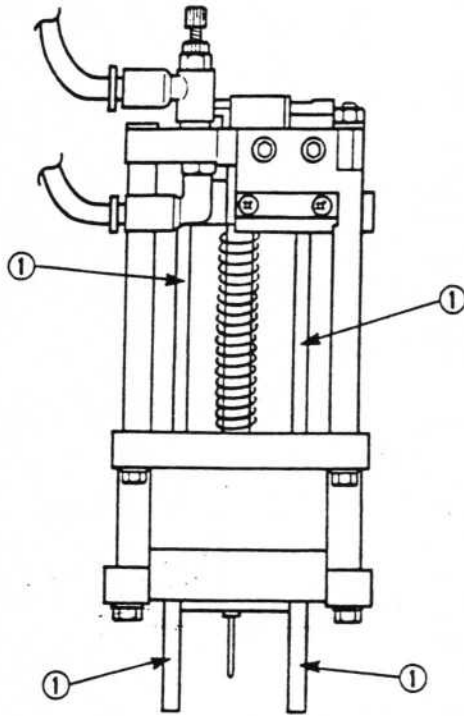

Fig. 1
(1) Lubrication
Grease the shaft ① with a thin layer of grease once a year (see Fig. 1).